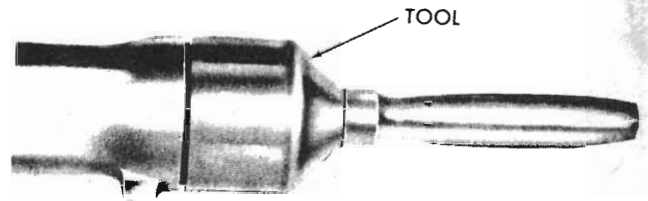
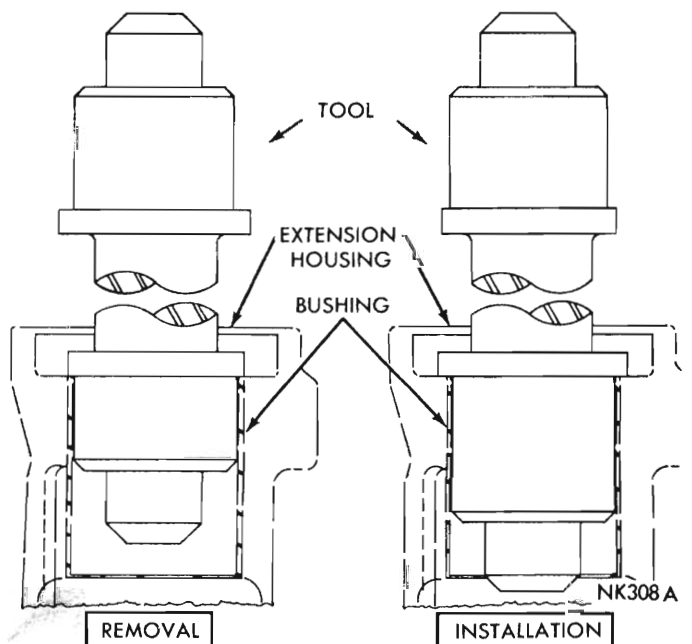

Fig. 13 - Installing extension housing yoke seal
Fig. 14 - Replacing extension housing bushing
(3) To install a new seal, position seal in opening of extension housing and drive it into the housing with Tool E21C50C (Fig. 13).
(4) Carefully guide front universal joint yoke into extension housing and on the mainshaft spline. Connect propeller shaft to rear axle pinion shaft yoke.
(3) Remove bolts securing extension housing to the crossmember. Raise transmission slightly with service jack and a piece of flat wood, then remove centre crossmember and support assembly.
(4) Remove extension housing to transmission bolts and carefully remove the extension housing.
(5) Drive oil seal out of extension housing with tool. Be sure not to mar oil seal surface in the housing.
(6) Press or drive out bushing with Tool E21C50E (Fig. 14).
(7) Slide a new bushing on installing end of Tool E21C50E. Align oil hole in bushing with oil slot in the housing, then press or drive bushing into place.
(8) Install a new oil seal into housing with Tool E21C50C (refer Fig. 13).